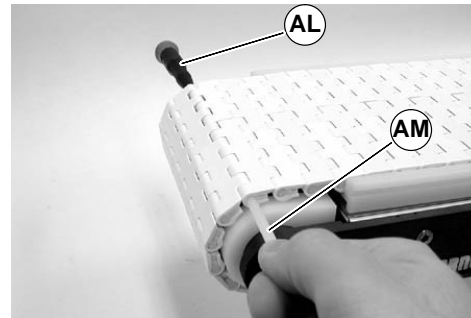

Figure 18
- Insert screwdriver (AL of figure 18) into one side of belt, pushing rod (AM) out. Remove rod and separate belt.